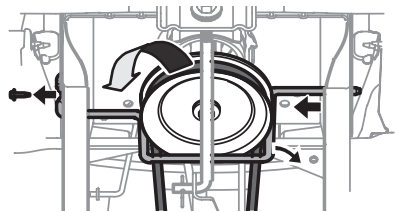

Fig. 42
5. Remove the hex screw securing the engine pulley keeper rod to the frame (Fig. 42).